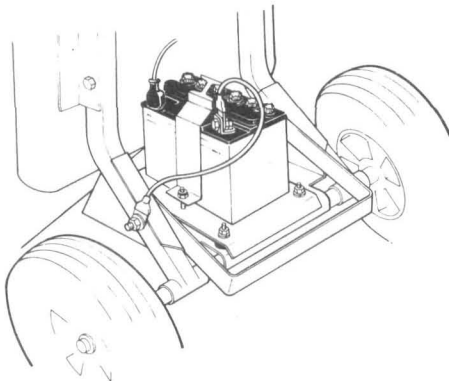

Fig. 1
- B. Using two $\frac{1}{2}$ " wrenches, remove the Whiz locknut that secures the negative (-) battery cable to the left-side axle support bracket (see Fig. 1). Slide the cable off and bend it safely away from any metal parts. Replace the nut on the screw for safekeeping.
- C. Using the $\frac{7}{16}$ " wrenches, disconnect the positive (+) cable from the positive battery post (see Fig. 1). Cover the end of the cable with the rubber boot and replace the nut on the battery bolt.
- D. Remove the battery hold-down clamp by using a $\frac{7}{16}$ " wrench to remove the two locknuts that secure the clamp to the battery platform. See Fig. 1. Keep the nuts with the clamp.